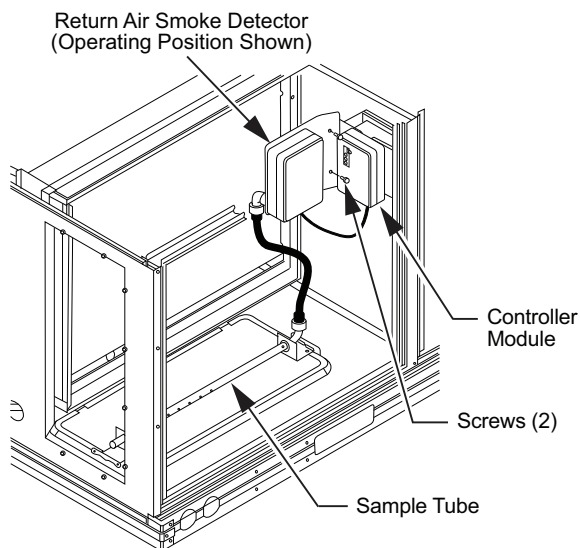

Fig. 49 — Return Air Smoke Detector Operating Position
3. Rotate the detector plate so the sensor is facing outwards and the sampling tube connection is on the bottom. See Fig. 49.